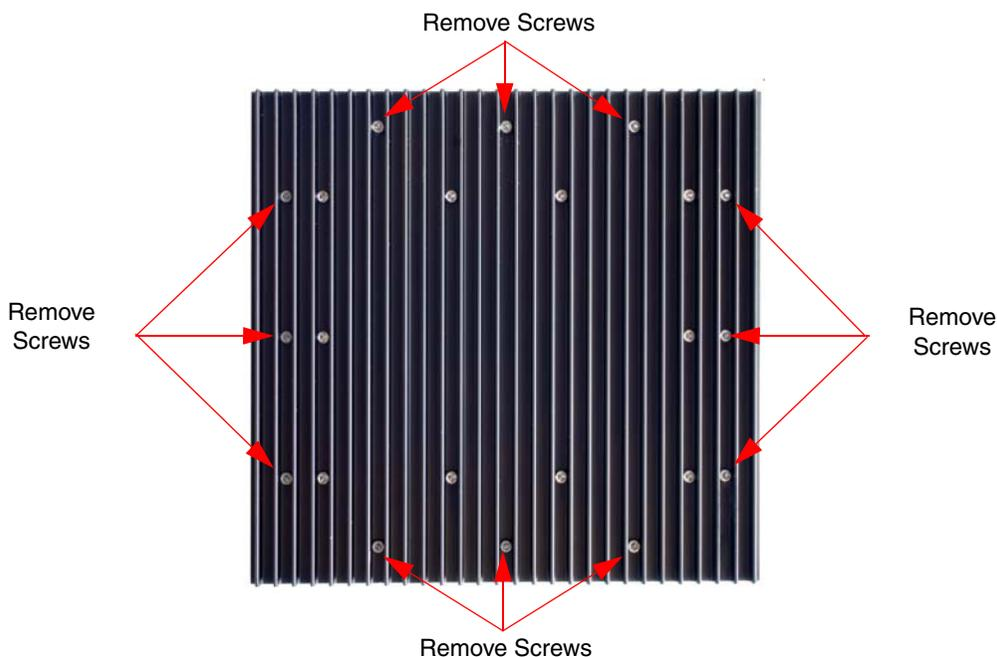

Figure 23: Remove mounting screws to detach power amp from cabinet.
- 6) Remove the 12 hold down screws (3/32" hex head) that hold the power amplifier assembly to the cabinet. The screw heads are accessible from the heatsink side of the assembly. Refer to **Figure 23**.